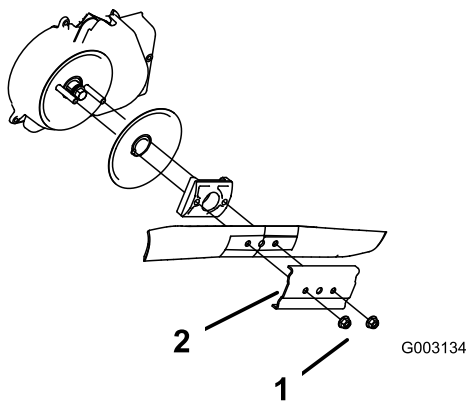

Figure 28
3. Remove the 2 blade nuts and the stiffener (Figure 28).
4. Remove the blade (Figure 28).
5. Install the new blade (Figure 28).